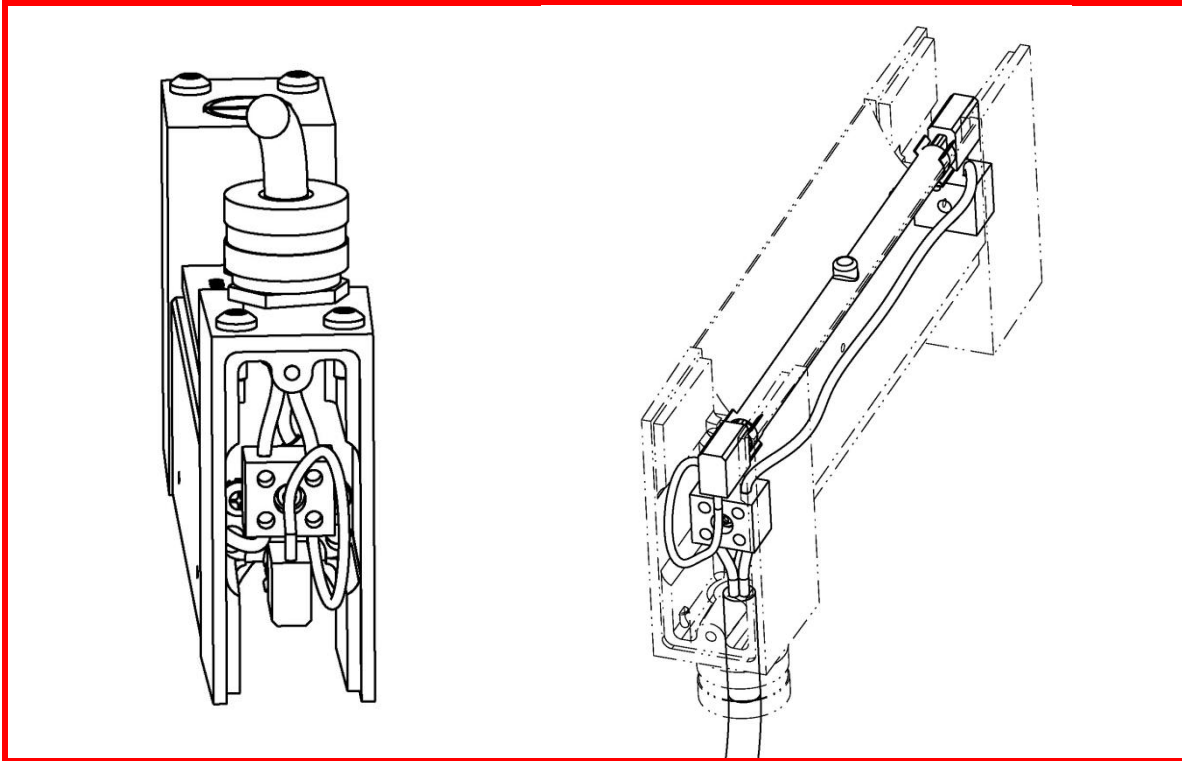

Figure 6-2. Model 5306 Lamp Removal.
3. Loosen (do not remove) the setscrews in the ceramic terminal block on each end of the heater and remove the lamp lead from the terminal block. (see Figure 6-2).